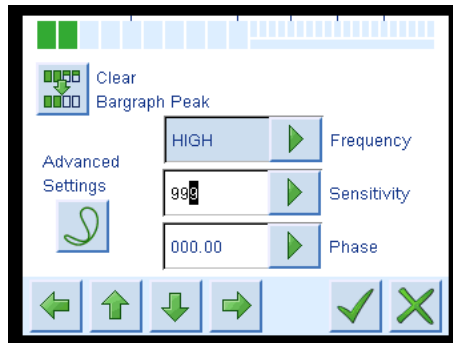

Figure 74:
1. Press either the **Sensitivity** or **Phase** parameter. The screen changes to show the adjustment keys. See Figure 74.